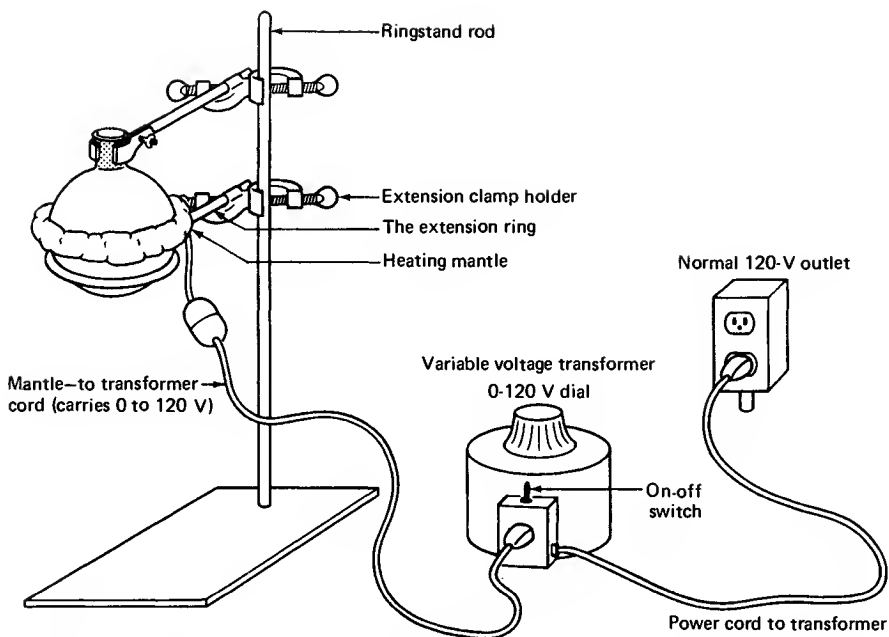

Fig. 61 Round-bottom flask and mantle ready to go.
2. ***The traditional fiberglass heating mantle.*** An electric heater wrapped in fiberglass insulation and cloth that looks vaguely like a catcher's mitt (Fig. 61).
HINT. When you set up a heating mantle to heat any flask, usually for **distillation** or **reflux**, put the mantle on an iron ring and keep it clamped a few inches above the desktop (Fig. 61). Then clamp the flask *at the neck*, in case you have to remove the heat quickly. You can just unscrew the lower clamp and drop the mantle and iron ring.